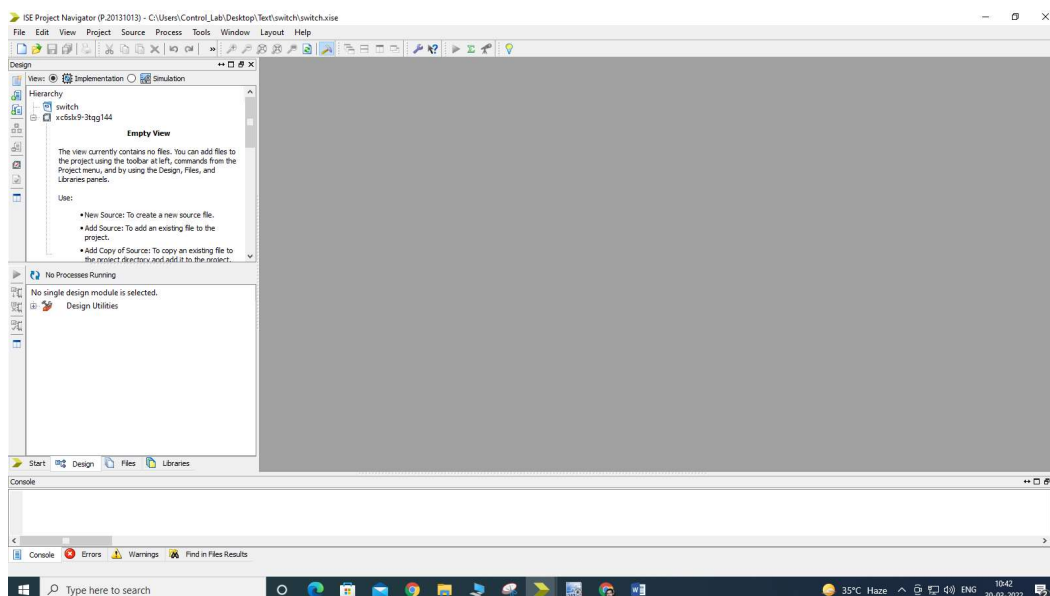

Fig 1.5: ISE Project Navigator
6. The ISE Project Navigator interface will be as shown in Fig.1.5.